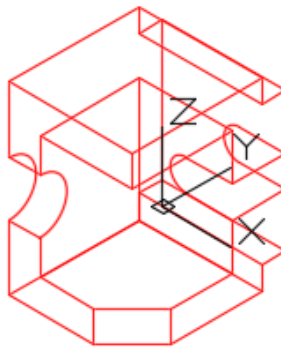

Figure Step 6
Step 6 Rotate the model 90 degrees around the X axis. (Figure Step 6)